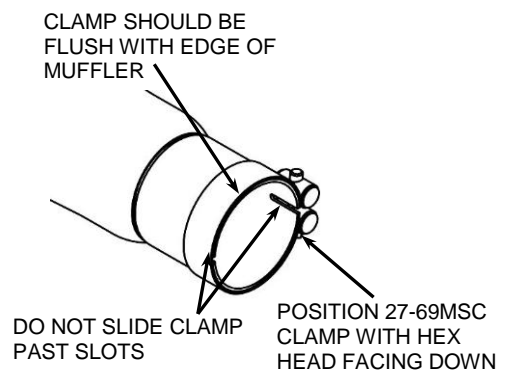

FIGURE 4
13. Position the supplied #27-69 MSC muffler clamp with hex head facing inward and down as shown in **FIGURE 4** and slide it onto the muffler inlet tube.